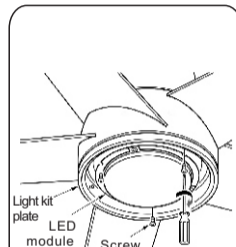

Fig.14
Step 5: Tighten the LED assembly to light kit plate with 3 screws.(Fig. 14)